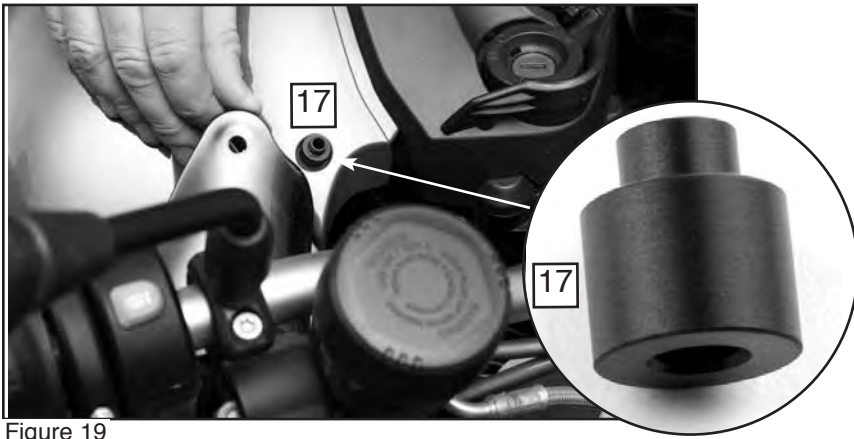

Figure 19
13. Place the Support Bushings (17), with narrow end up, in the two empty holes on the Tank Cover. **Figure 19**